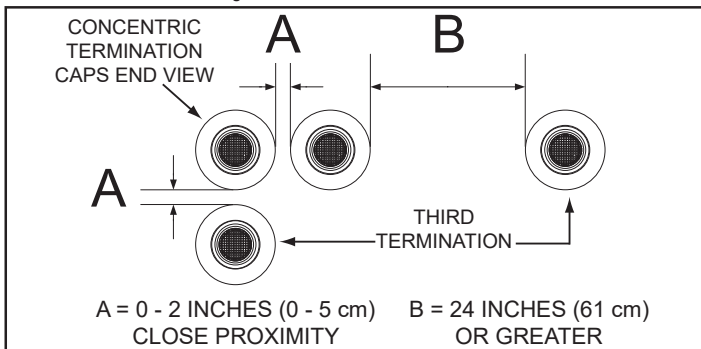

Figure 46. Three Concentric Terminations
1. When installing three concentric terminations through a roof or through a sidewall, the third termination can be installed in close proximity as indicated by dimension A in **Figure 46**.
2. If close-proximity installation of the third termination is not possible, the third termination can be installed as indicated by dimension B in **Figure 46**.
on clearances. See **Figure 46** (page 43) when installing three concentric terminations.